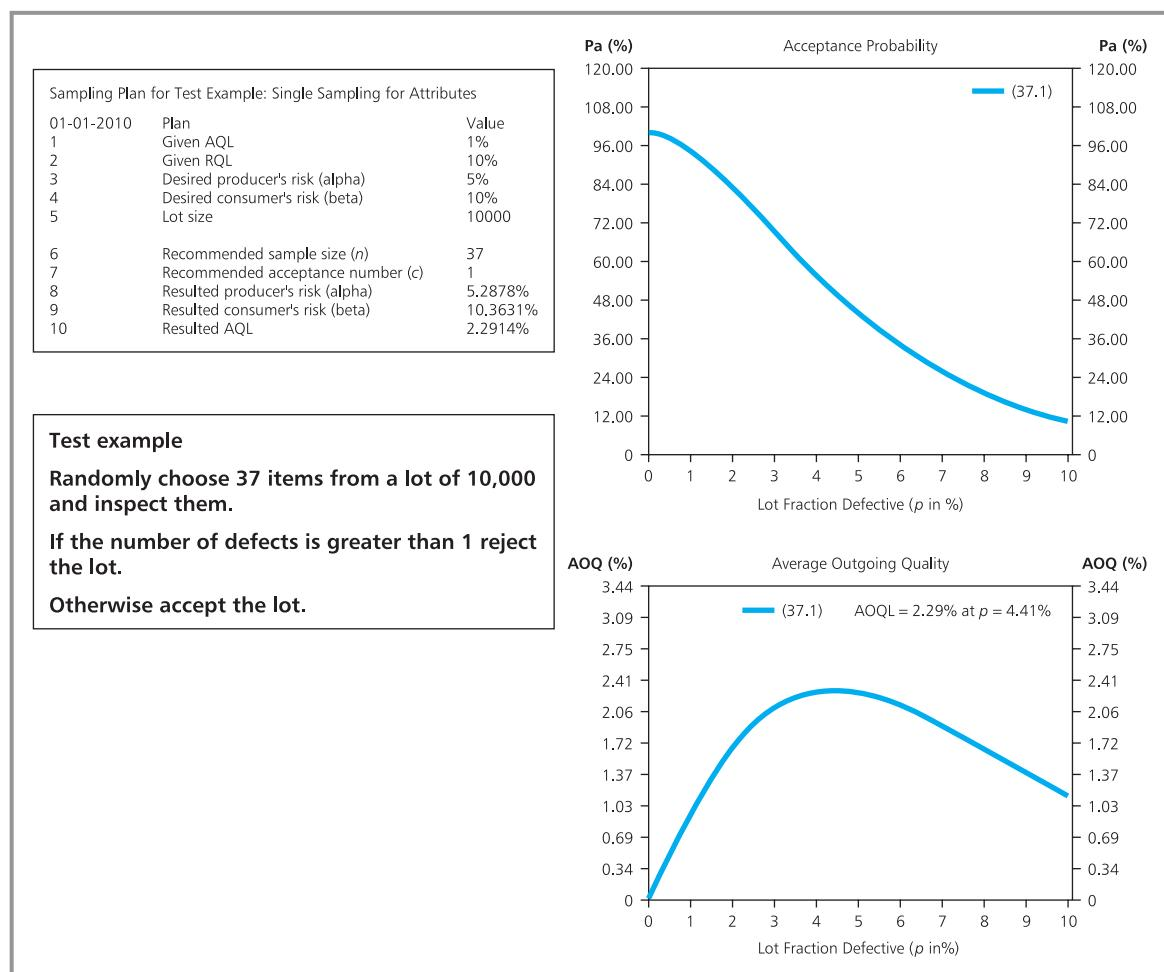

Figure 19.14 Printout from quality control package
- 19.3** A lot of software is available for quality control. Figure 19.14 shows a printout from a simple package that takes data, suggests a sampling plan, and shows the operating curve for this plan and the average outgoing quality. How does this compare with other software? What features do you think there should be?